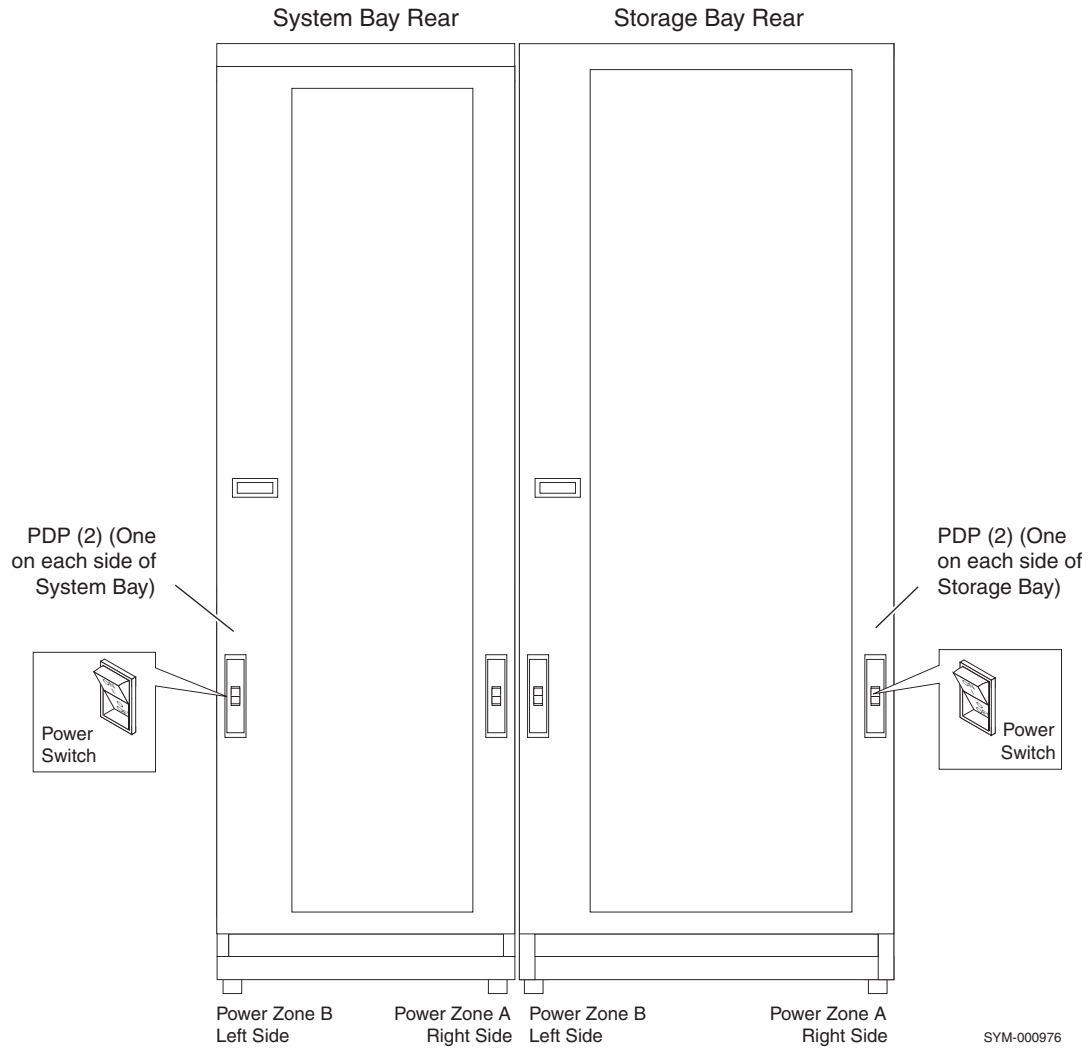

Figure 66 Symmetrix DMX-3 system bay and storage bay power switches
1. On the rear door of each Symmetrix DMX-3 storage bay (Figure 66 on page 263), press the Zone A and Zone B power distribution panel (PDP) power switches to the up (|) ON position.
2. On the rear door of the Symmetrix DMX-3 system bay (Figure 66 on page 263), press the Zone A and Zone B PDP power switches to the up (|) ON position.
2. On the rear door of the system bay (Figure 66 on page 263), press the Zone A and Zone B PDP power switches to the down (O) OFF position.
3. On the rear door of the storage bays (Figure 66 on page 263), press the Zone A and Zone B PDP power switches to the down (O) OFF position.